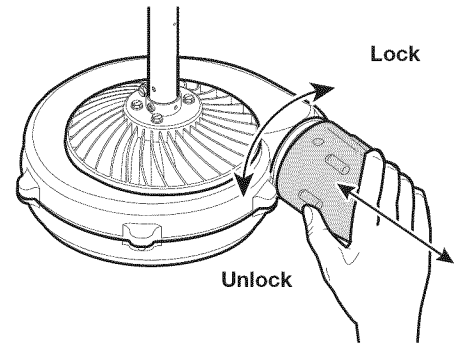

Fig. 2
2. Push the nozzle onto the housing and turn the nozzle clockwise until it locks into place (Fig. 2).
1. Turn the nozzle counterclockwise approximately 45° until the button unlocks from the housing (Fig. 2).
2. Pull the nozzle off of the housing (Fig. 2).